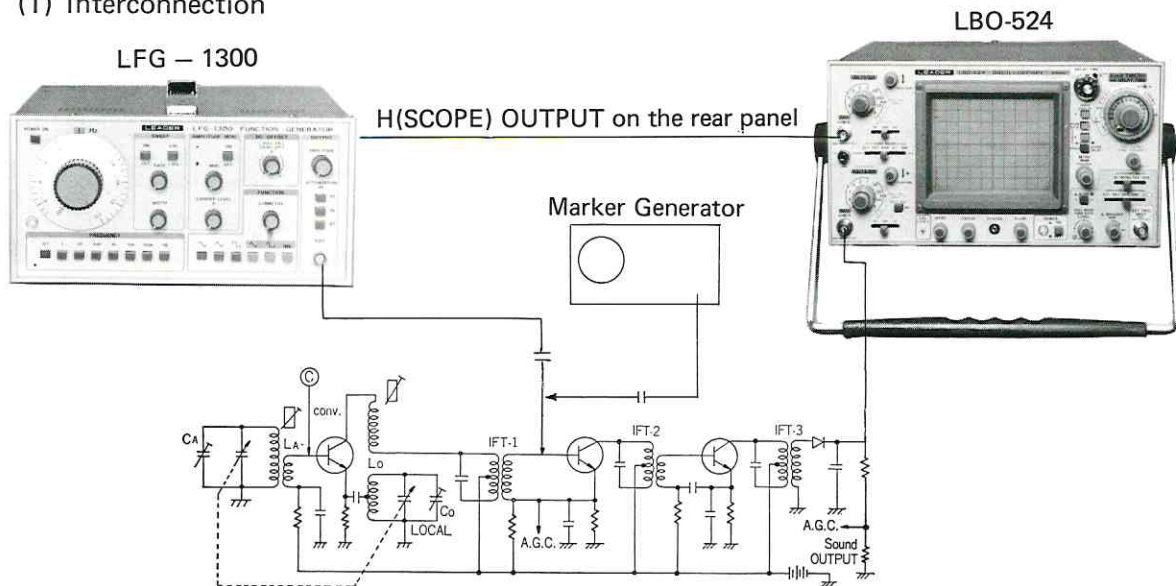

Fig. 5-16
- c. Figure 5-16 shows an example of measurement.